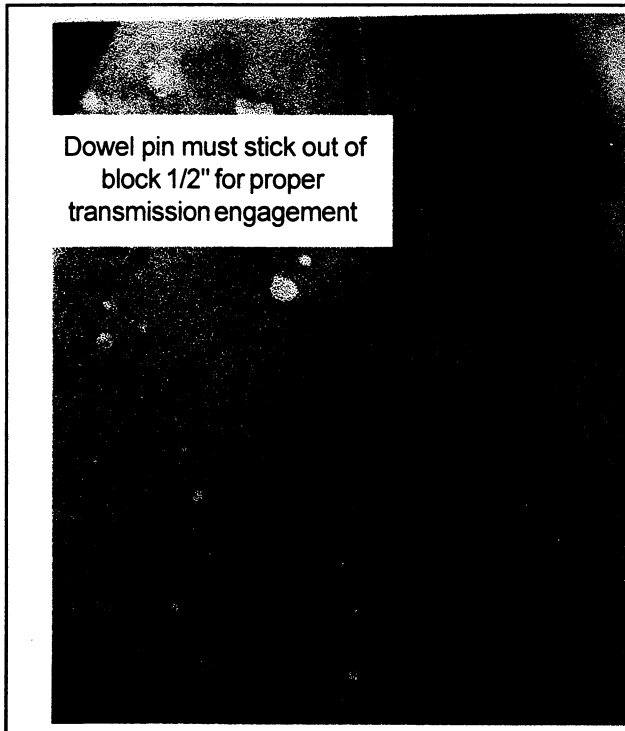

Figure 4
**STEP 12.** Inspect your engine block. Make sure there are no burrs that will prevent the transmission from bolting down flat against the engine. File off any burrs that may be present. Dowel pins should stick out of the engine block a minimum of 1/2" for proper engagement (see fig. 4). Insufficient dowel pin engagement can cause front seal and/or bushing failure due to improper engine/transmission alignment. Bellhousing bolts alone will not align the transmission properly.